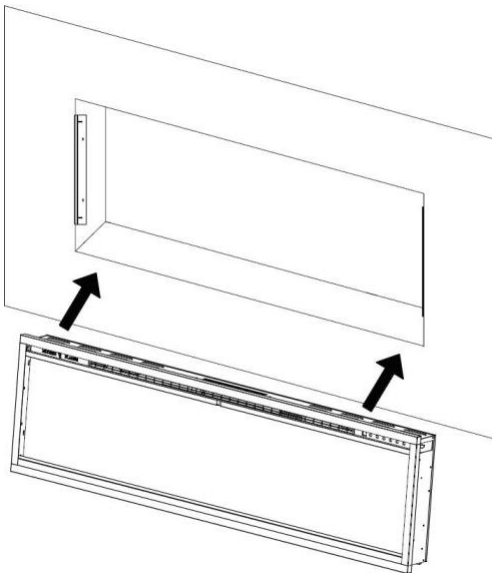
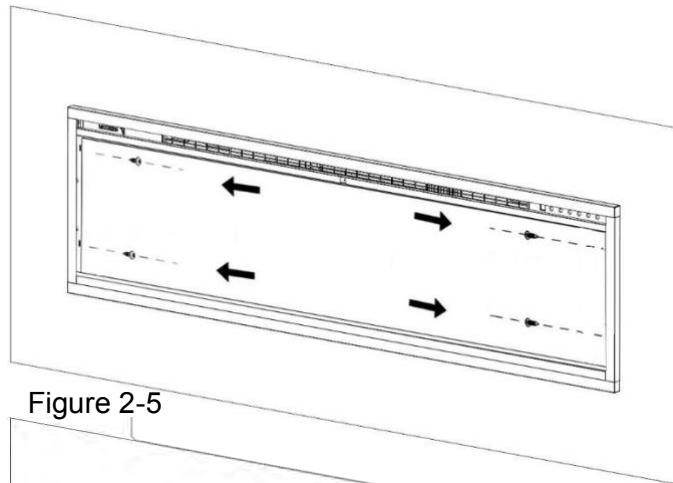

Figure 2-4
Figure 2-5
E. Insert the appliance into the rough-in frame (**Fig. 2-4**) and then secure it by installing 4 screws (supplied) into the slots on the insides (2 per side) (**Fig. 2-5**). Next reinstall the two brackets and 4 screws previously removed. (**Fig. 2-6**).